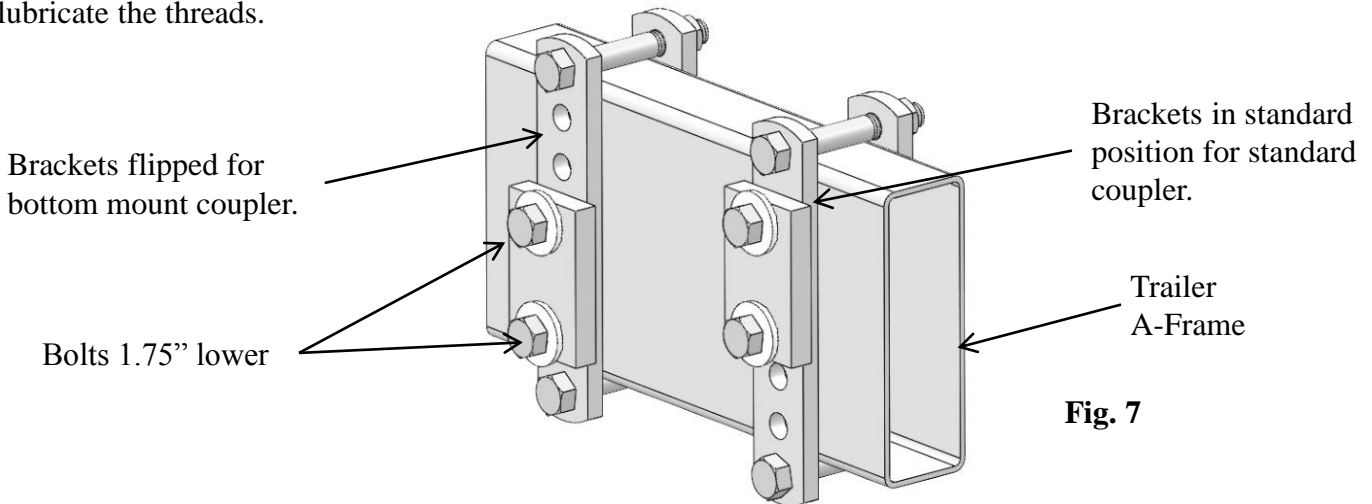

Fig. 7
- If you have a 6" tall frame with a bottom mounted coupler (inverted coupler) it may be necessary to install brackets (V) and (W) upside down in order to get the L-bracket (L) mounted low enough. See fig. 7. This will lower the L-bracket 1.75" Otherwise their may be too much spring bar pressure.
- Torque both 3/4" nuts(E) to 300 ft.\*lbs. when the desired angle is achieved. If a large enough torque wrench is not available, torque nuts to 150 ft.\*lbs. then tighten the nuts an additional 1/4 turn. Do not lubricate the threads.